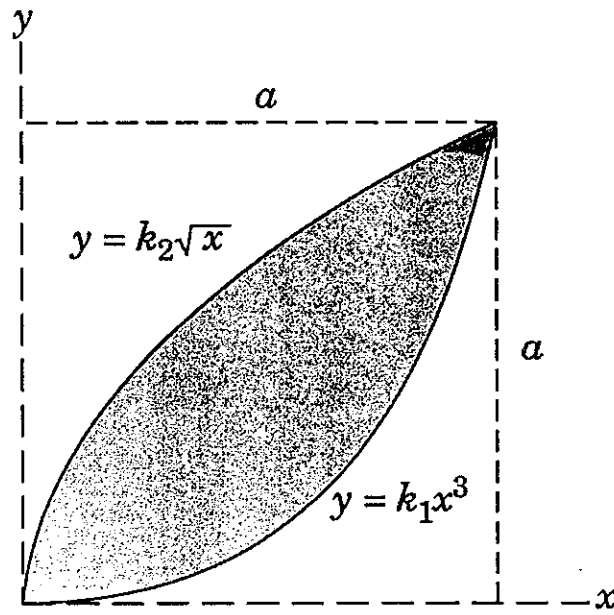

Fig. 1
1. Determine the  $x$ - and  $y$ -coordinates of the centroid of the shaded area in Fig. 1. (15%)